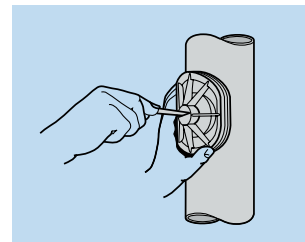

Fig.15
- Ensure seal ring is lubricated prior to fitting. Tighten the screw whilst pulling the door outwards. Do not over tighten (Fig.15)